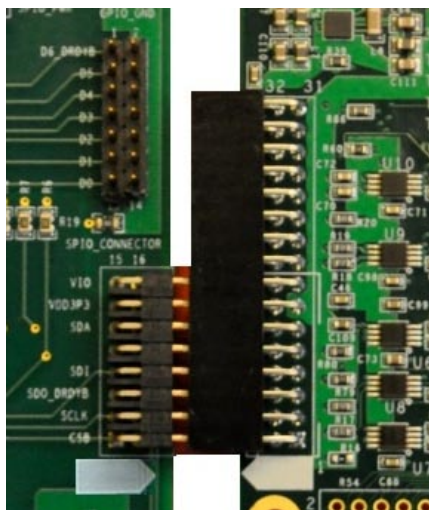

Figure 4 – LMP90100EB-to-SPIO-4 Board Connection
4. Connect the LMP90100EB's **JP12** to SPIO-4 Board's **J6** (pins 1-16). See Figure 4.
1. Connect the LMP90100EB to the SPIO-4 board as seen in Figure 4.